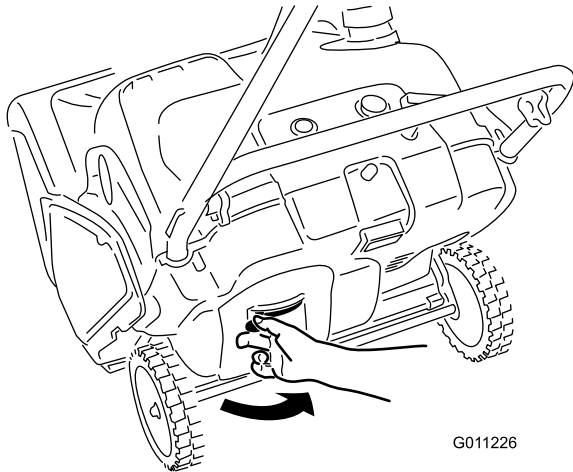
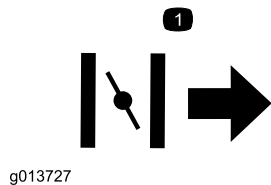

Figure 12
Figure 13
2. Move the choke lever to the right (Figure 12 and Figure 13).